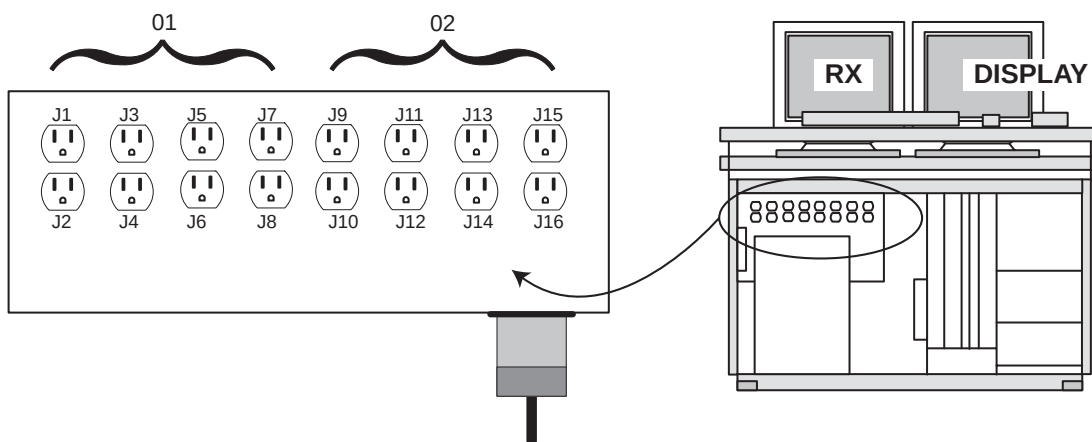

Figure 1-5 Console Power Panel
- 9.) Plug DASM power cord into J10 (see Figure 1-5).
9.) Plug DASM power cord into J10 (see Figure 1-5, on page 11).
- 7.) Attach the free end of cable A (HD50) to adapter installed in step (6).
9.) Plug DASM power cord into J10 (refer to Figure 1-5, on page 11).
- 7.) Plug DASM power cord into J10 (refer to Figure 1-5, on page 11).